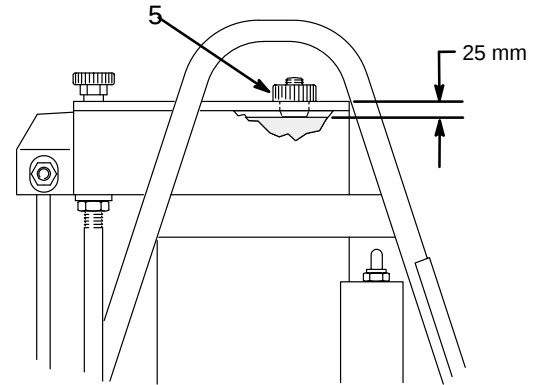

Fig. 1 0269
4. **Check the hydraulic oil level.** Unscrew the fill cap (5). The oil should be 25 mm from the top of the plate. If the oil is low, fill as necessary with lightweight hydraulic oil; use only Graco Hydraulic Oil, Part No. 218–797. Install the fill cap. See Fig. 1.